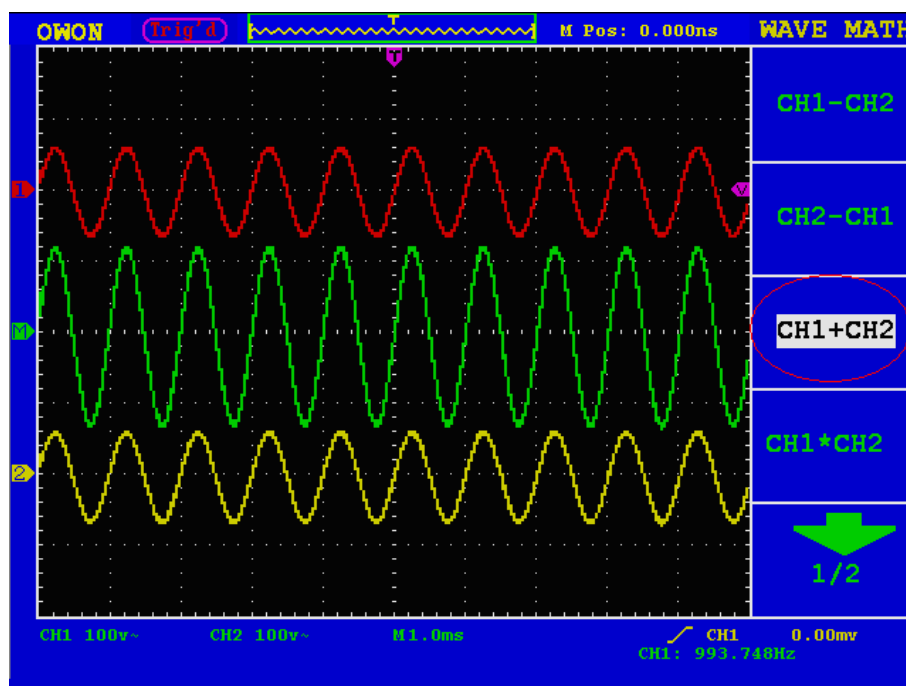

Fig. 5-8 Wave Form resulted from CH1 +CH2 Mathematical Manipulation
2. Press the **F3** menu selection button and choose **CH1+CH2**. The green calculated wave form M is displayed in the screen; press the **F3** menu selection button again, the wave form M is closed off (see Fig.5-8).